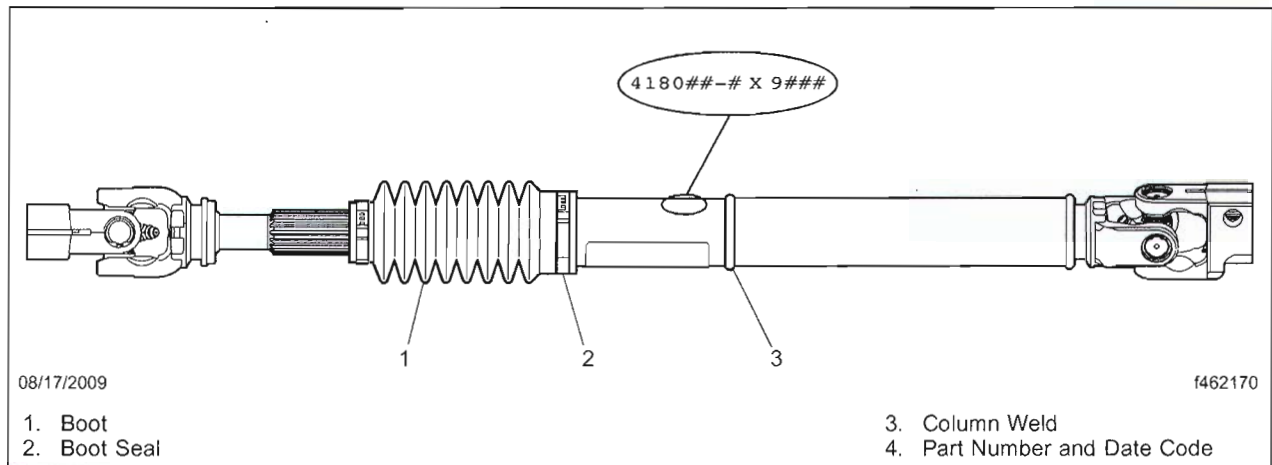

Fig. 1, TRW IGEN 3 Intermediate Shaft
3. Identify the intermediate steering shaft part number. See **Fig. 1**. Part numbers are followed by a space and a date code. An example of an intermediate shaft part number and date code is 418050-2 A 9126.
4. If the intermediate shaft is not an IGEN 3 model (shown in **Fig. 1**), no further action is necessary.